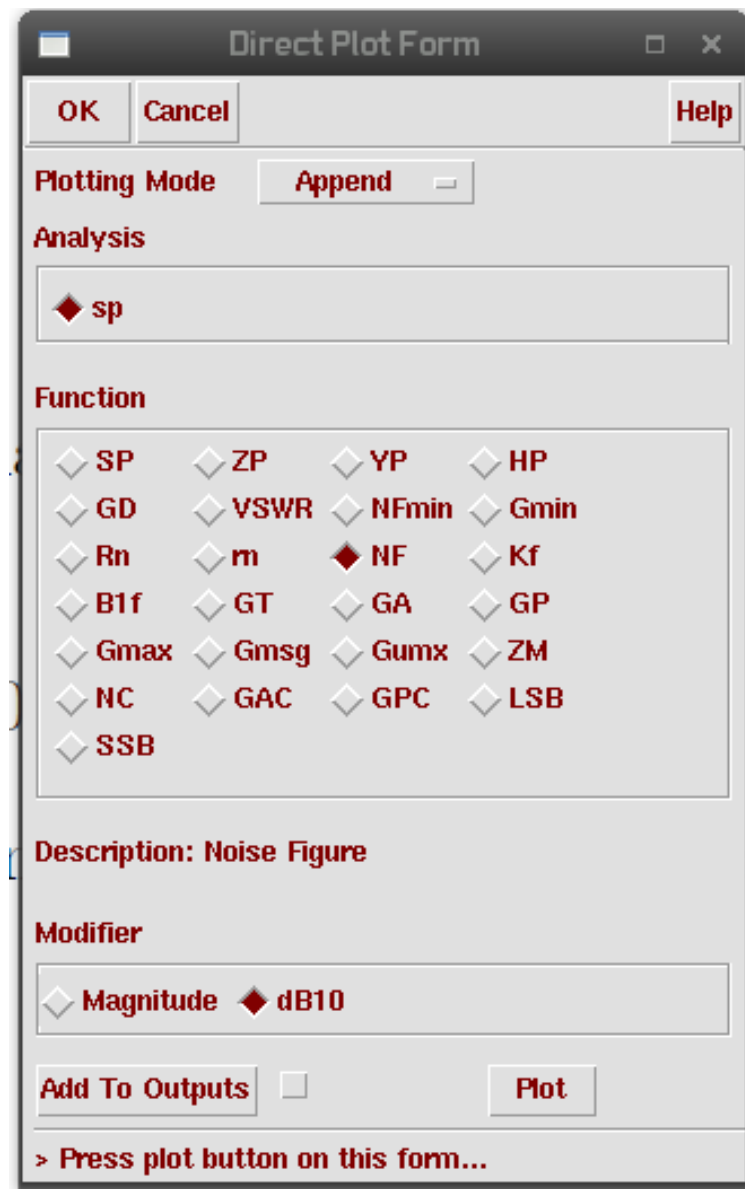

Figure 2.5: Plotting Noise Figure (NF)
1. In Function select **Noise Figure (NF)**. In modifier select **dB10** and click plot (Refer Fig. 2.5).
2. In function select **Noise Circle (NC)**. Plot type - **Z-Smith**. Select Sweep **Noise Level (dB)** (at fundamental Freq). Enter Frequency = Fundamental Freq = frf in ADE. **Level Range (dB)** = 1dB to 3dB in steps of 0.25dB (say)